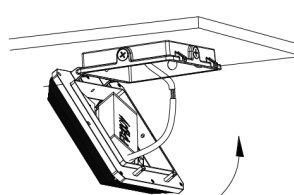

Figure 2-7
7. Turn the hinged door up then cover the fixture housing. Figure 2-7